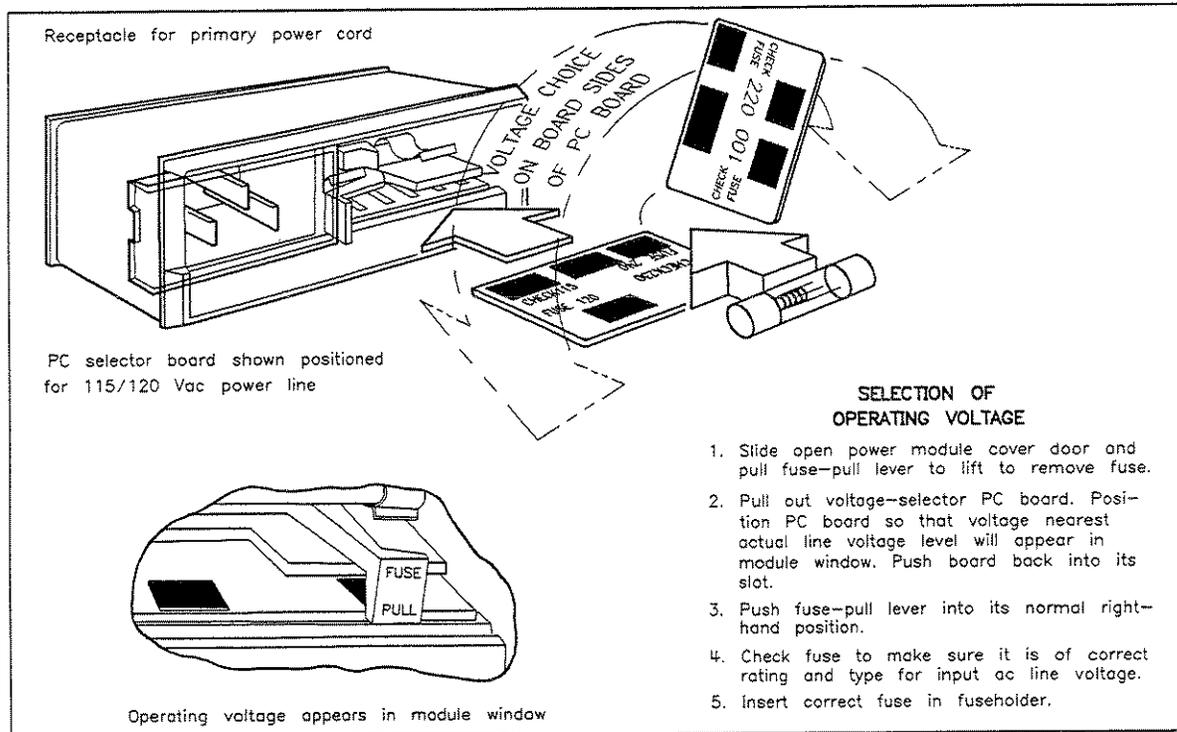

Figure 2-3. Setting the Voltage Selector Switch and Checking the Fuse
Both the voltage selection card and the fuse are located in the AC power module on the rear panel of the analyzer (see Figure 2-3). To select the line voltage and fuse (see chapter 1 for fuse part numbers):
2. Using the values in Table 2-2, follow the instructions in Figure 2-3.